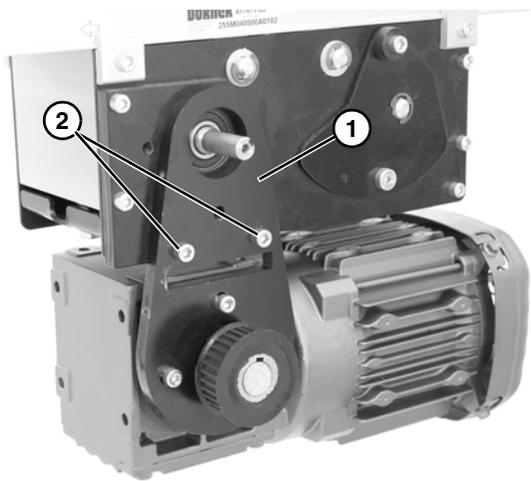

Figure 7
4. Attach mount assembly (**Figure 7, item 1**) with mounting screws (**Figure 7, item 2**). Tighten screws to 80 in-lb (9 Nm.).